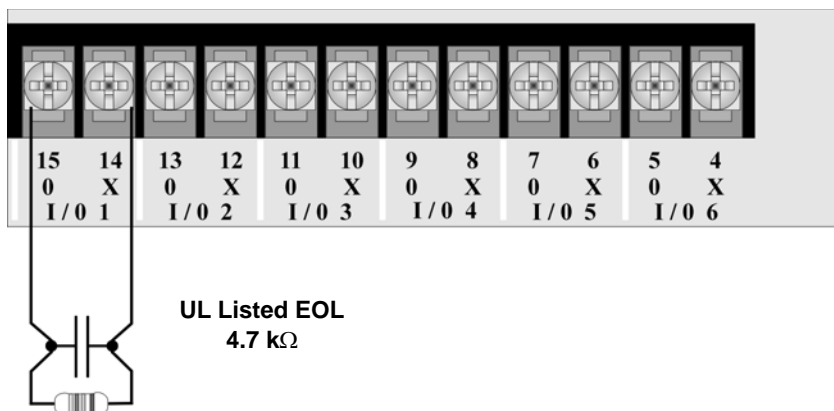

Figure 3.10 Class B Input Switches
1. Wire the Class B switch as shown in Figure 3.10.